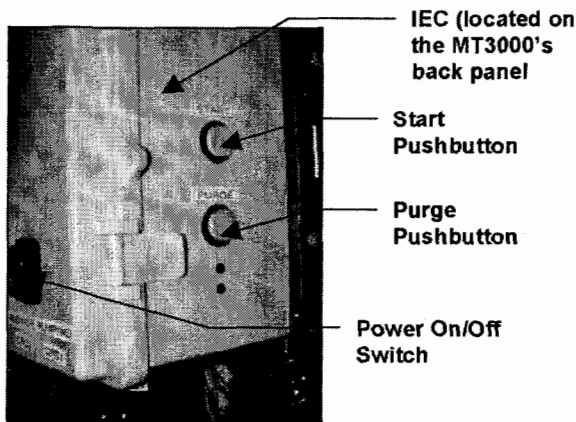

Figure 14: Location of the controls (on the IEC) Used during Purge Procedure
Follow These Steps to Purge Your MT3000 for the First Time (refer to figures 14 & 15 below):
Step 1. Turn *On* Power switch on the IEC. See figure 14, page 18, for Power On/Off switch location.